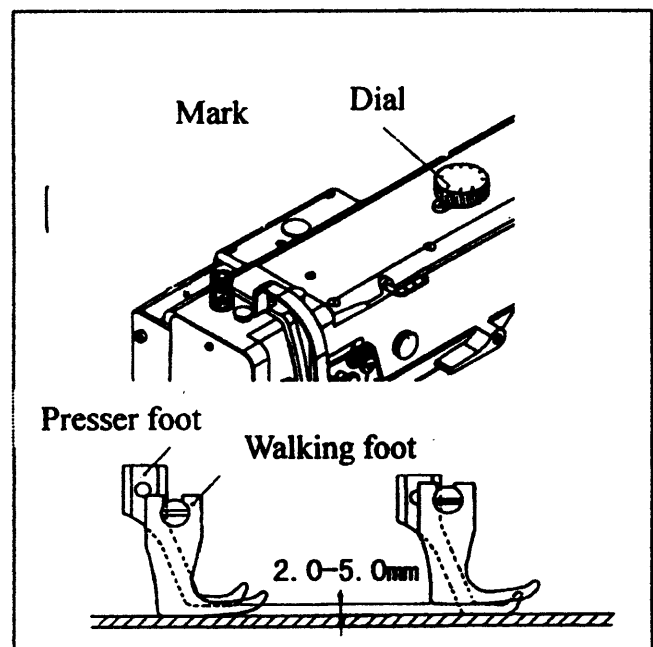

Fig.10
1) Adjustment of alternating movement (Fig10):